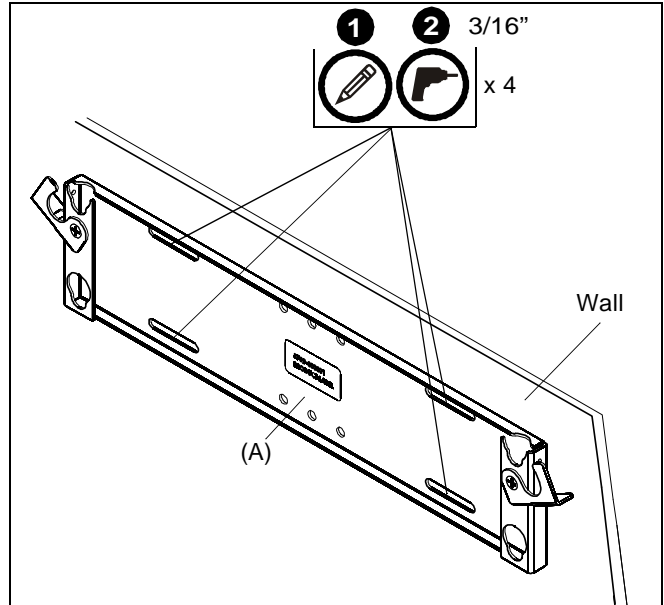

Figure 10
- Locate and mark the four mounting holes on the concrete. (See Figure 10)
- Drill four 3/16" holes at each marked location. (See Figure 10)